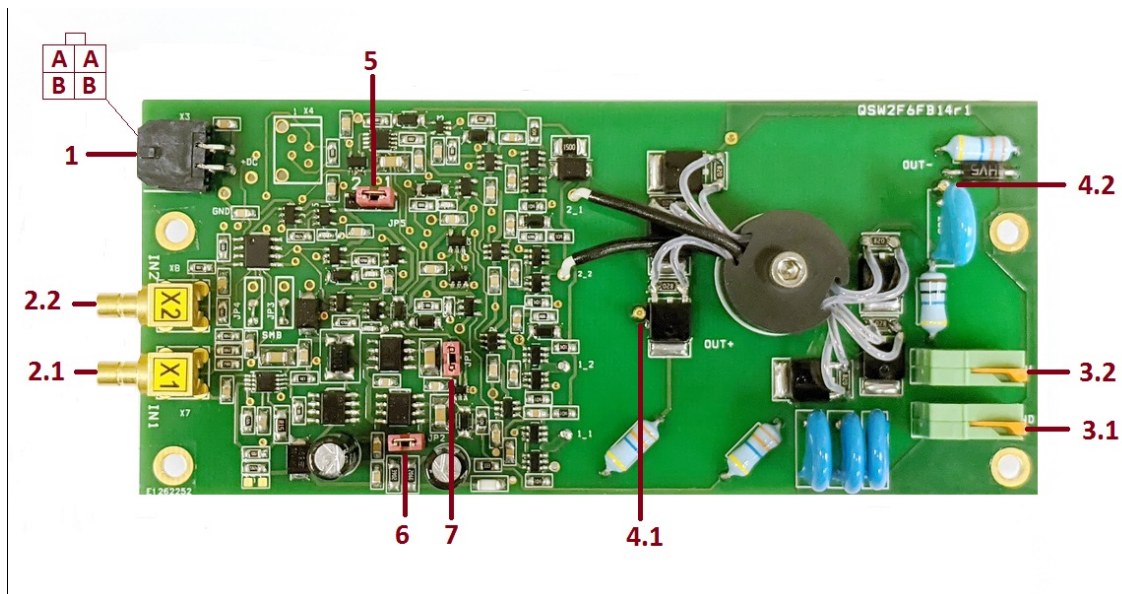
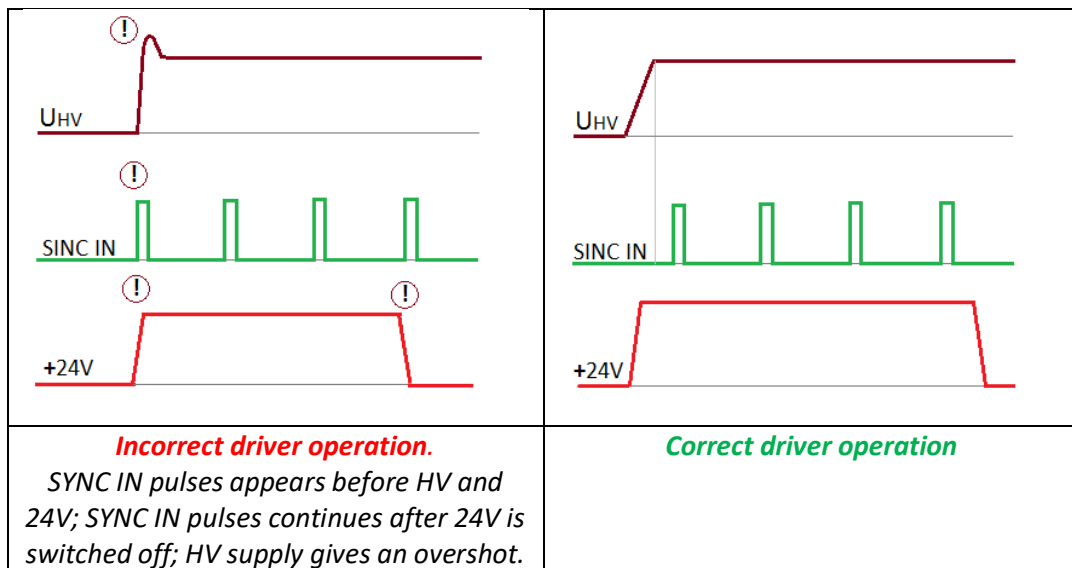

Figure 5. View of the driver without case
Figure 6. Driver operation chart
1. Different voltages may be supplied to the driver depending on the jumper #6 in **Figure 5**:
The DPB driver has protection against damage due above wrong SYNC IN timing. However, this protection blocks output if HV supply is set below $0.5U_{max}$. If you still need to operate below this limit, the protection can be switched off by shortening pins of jumper #7 **Figure 5**). This case HV supply voltage and following amplitude of output pulses can be reduced down to 0 V. You should be absolutely sure that correct operation conditions as per **Figure 6** are fulfilled.
This step describes the commutation jumper marked “#5” in **Figure 5 / Table 4**